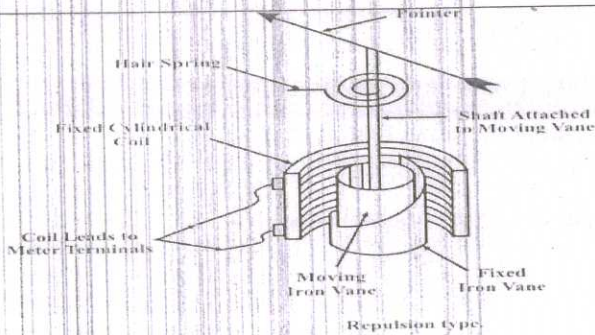

Figure 1 – Repulsion moving iron-instrument
Lead oxide (termed active material) is pressed into the recesses of the plates. Each electrode consists of several plates connected in parallel with porous rubber separators in between, as illustrated in Figure 1 (b). This arrangement and the shape of the plates give the largest possible electrode surface area within the size limitations of the battery.
- 1. **Repulsion** (or double iron) type (figure 1)